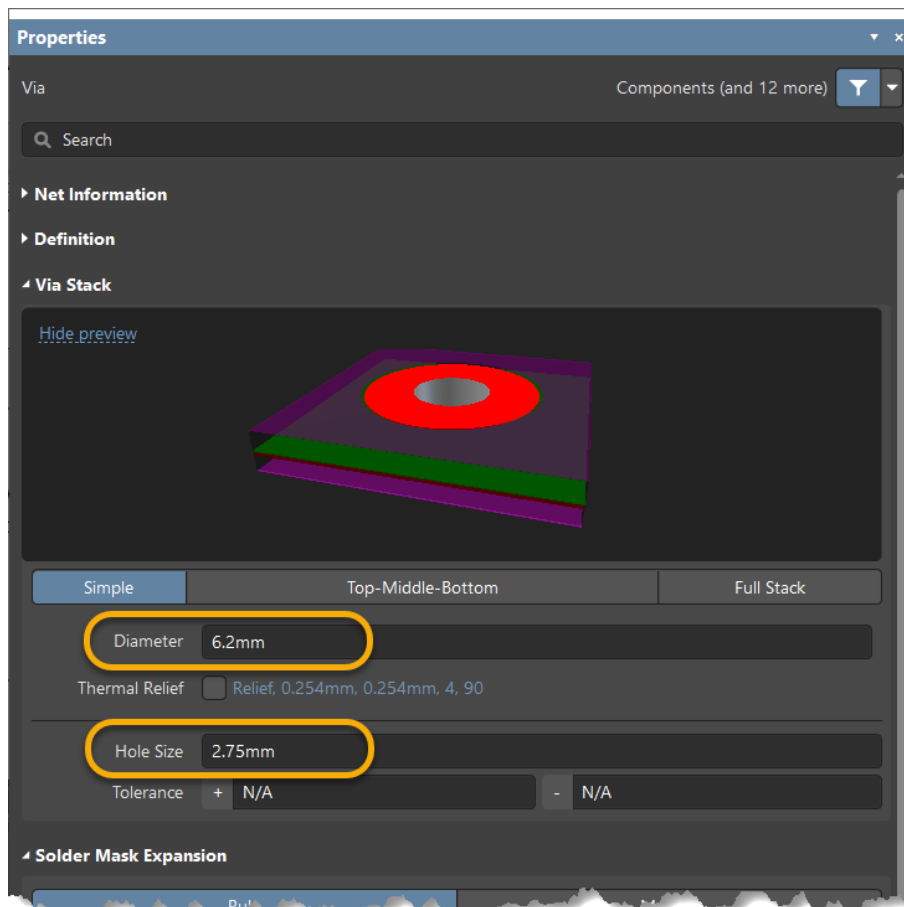

Figure 2. Via as MH Configuration
18. Press **Tab** key to open the *Properties* panel. Configure the Via with the following parameters, as seen at Figure 2